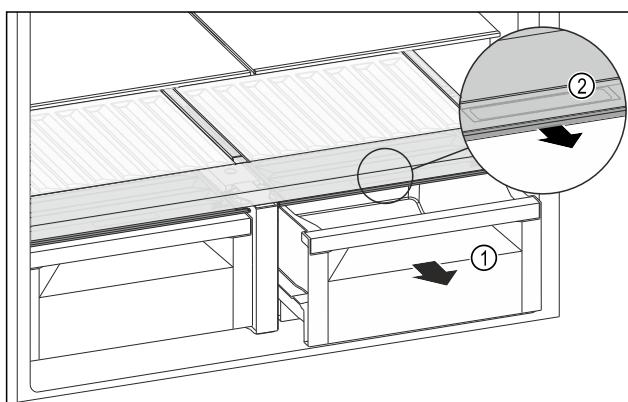

Fig. 122
- ▶ Pull out the drawer Fig. 122 (1).
- ▶ Grasp the recessed grip Fig. 122 (2) on the compartment lid and pull the compartment lid forwards at the same time.